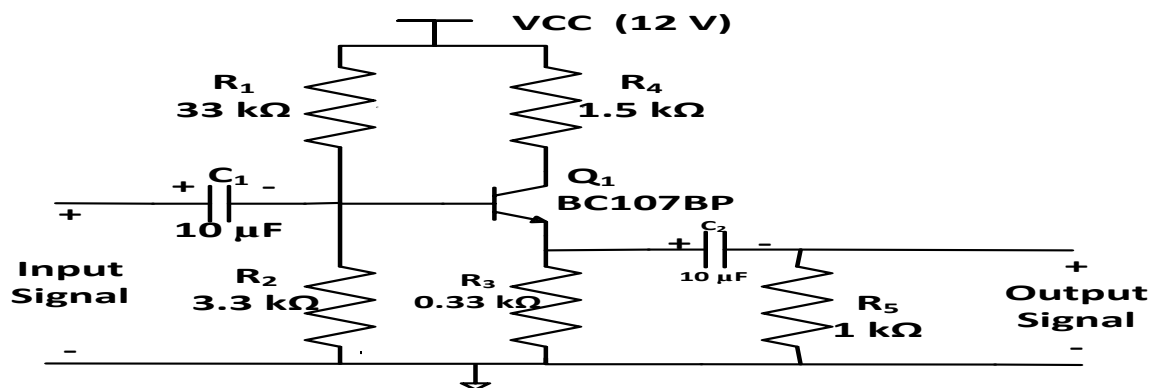

Figure7.2: Voltage series feedback amplifier
7.2 Simulate a voltage series feedback amplifiers as shown in Figure 7.2 using MULTISIM. Draw the frequency response of voltage series feedback amplifiers.